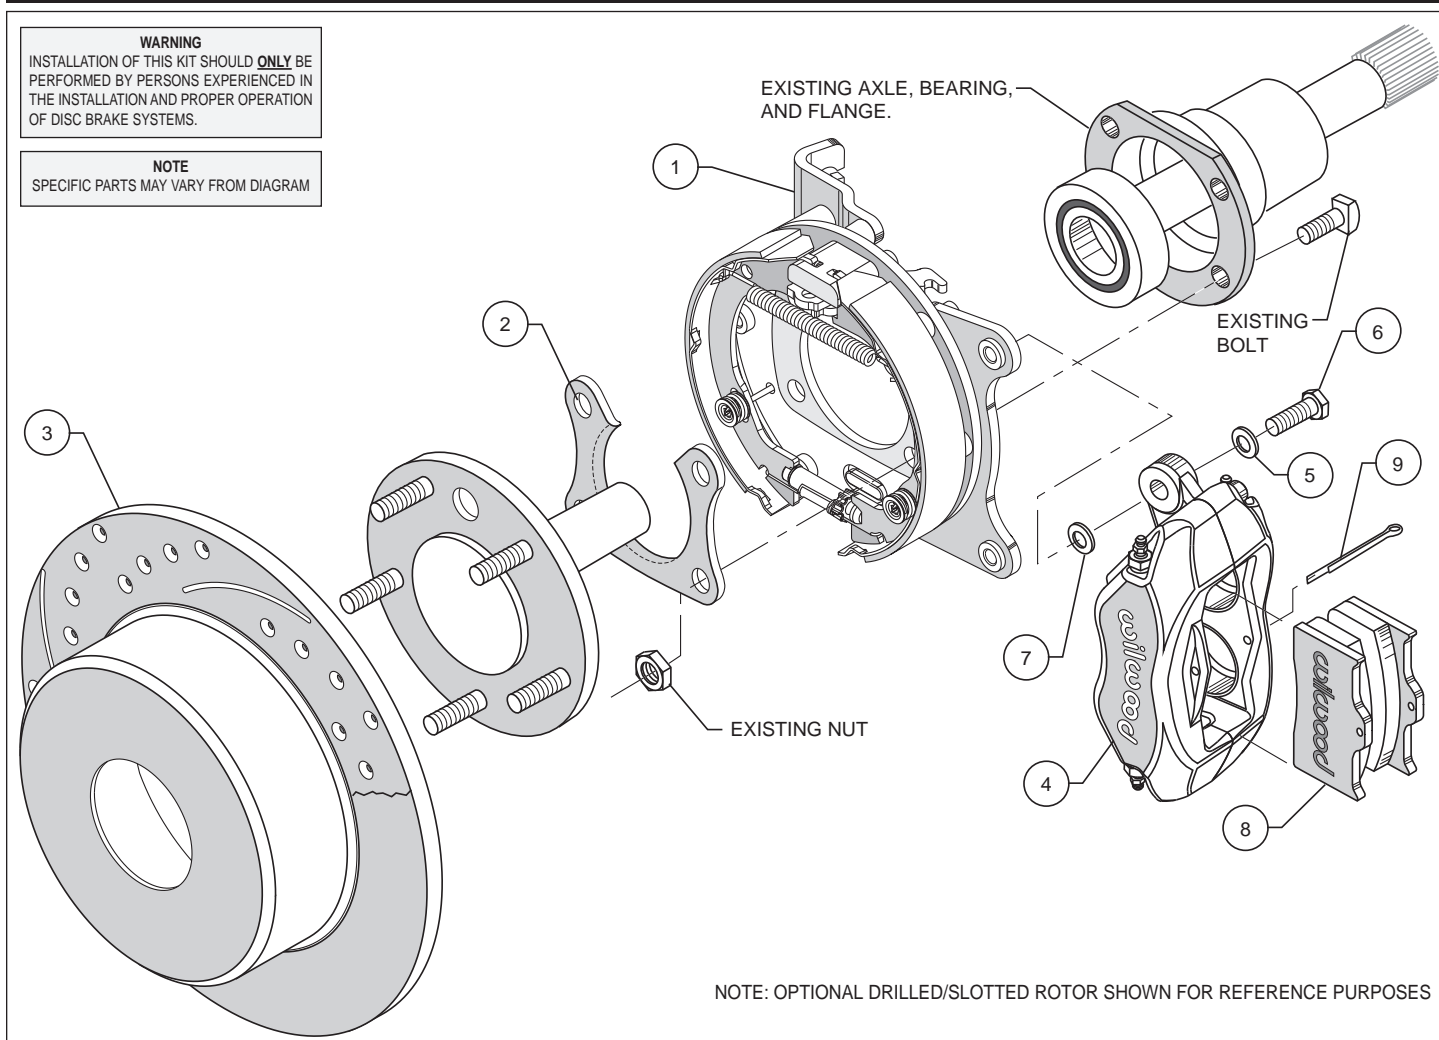
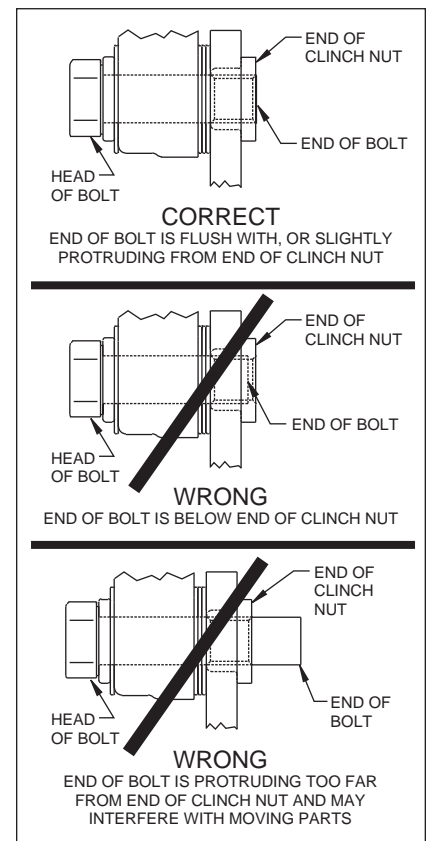

Figure 1. Typical Installation Configuration
Figure 5. Clinch Nut Engagement Diagram
- Orient the bracket assembly (1) as shown in Figure 1 and slide it onto the axle. Insert the axle and bracket into the axle housing. Ensure that the bracket assembly backing plate fits flush against the axle housing flange.
- Install the bearing retainer (2) with the opening pointing upward and the lip facing inward (toward the bearing), as shown in Figures 1 and 4. Secure retainer and bracket assembly to the axle housing flange using the Original Equipment Manufacturer (OEM) bolts and nuts, Figure 1. Apply red *Loctite*® 271 to the OEM bolt threads and torque to OEM specifications.
- Verify stud size, then have a qualified machine shop drill the hat section of the rotor to the correct size and pattern. Slide the rotor (3) over the wheel studs covering the mounting bracket assembly (1) and against the axle flange face.
• **NOTE:** Please reference the caution statement at the beginning of the assembly instructions. Mount the caliper (4) over the rotor (3) and onto the caliper mounting bracket (1) using washers (5) and mounting bolts (6). View the rotor through the top opening of the caliper. The rotor should be aligned in the center of the caliper. If not, adjust the caliper by using 0.035 inch shims (7) by placing them between the caliper mounting bracket (1) and the caliper (4). Add as many shim washers (7) as necessary to achieve the correct alignment. **NOTE:** The end of the bolt must be flush with or slightly protruding from the head of the clinch nut. See Figure 5. Place spare shims (7) between washer and caliper mounting ear to achieve the proper mounting fastener configuration. Always use the same amount of shims on both the top and bottom caliper mounting bolts (6). Apply red *Loctite*® 271 to the mounting bolt threads (6), torque to 40 ft-lb.
- Position the Wilwood disc brake pads (8) into the caliper (4) and fasten with cotter pin (9). Steel backing plate side of brake pad should face the caliper pistons.
• **NOTE:** Clevis and cable kits which attach to the parking brake assembly are not included in the Wilwood parking brake kit. Wilwood offers a generic style parking brake cable kit, P/N 330-9371 for this application which can be ordered separately from your local Wilwood dealer or by calling Wilwood customer service at (805) 388-1188.
- Before final installation of the wheel, install a couple of lug nuts and adjust the parking brake shoes outward (using a drum shoe adjustment tool available at your local auto parts store) while spinning the rotor/hat (3) until a slight drag is felt against the hat/drum.